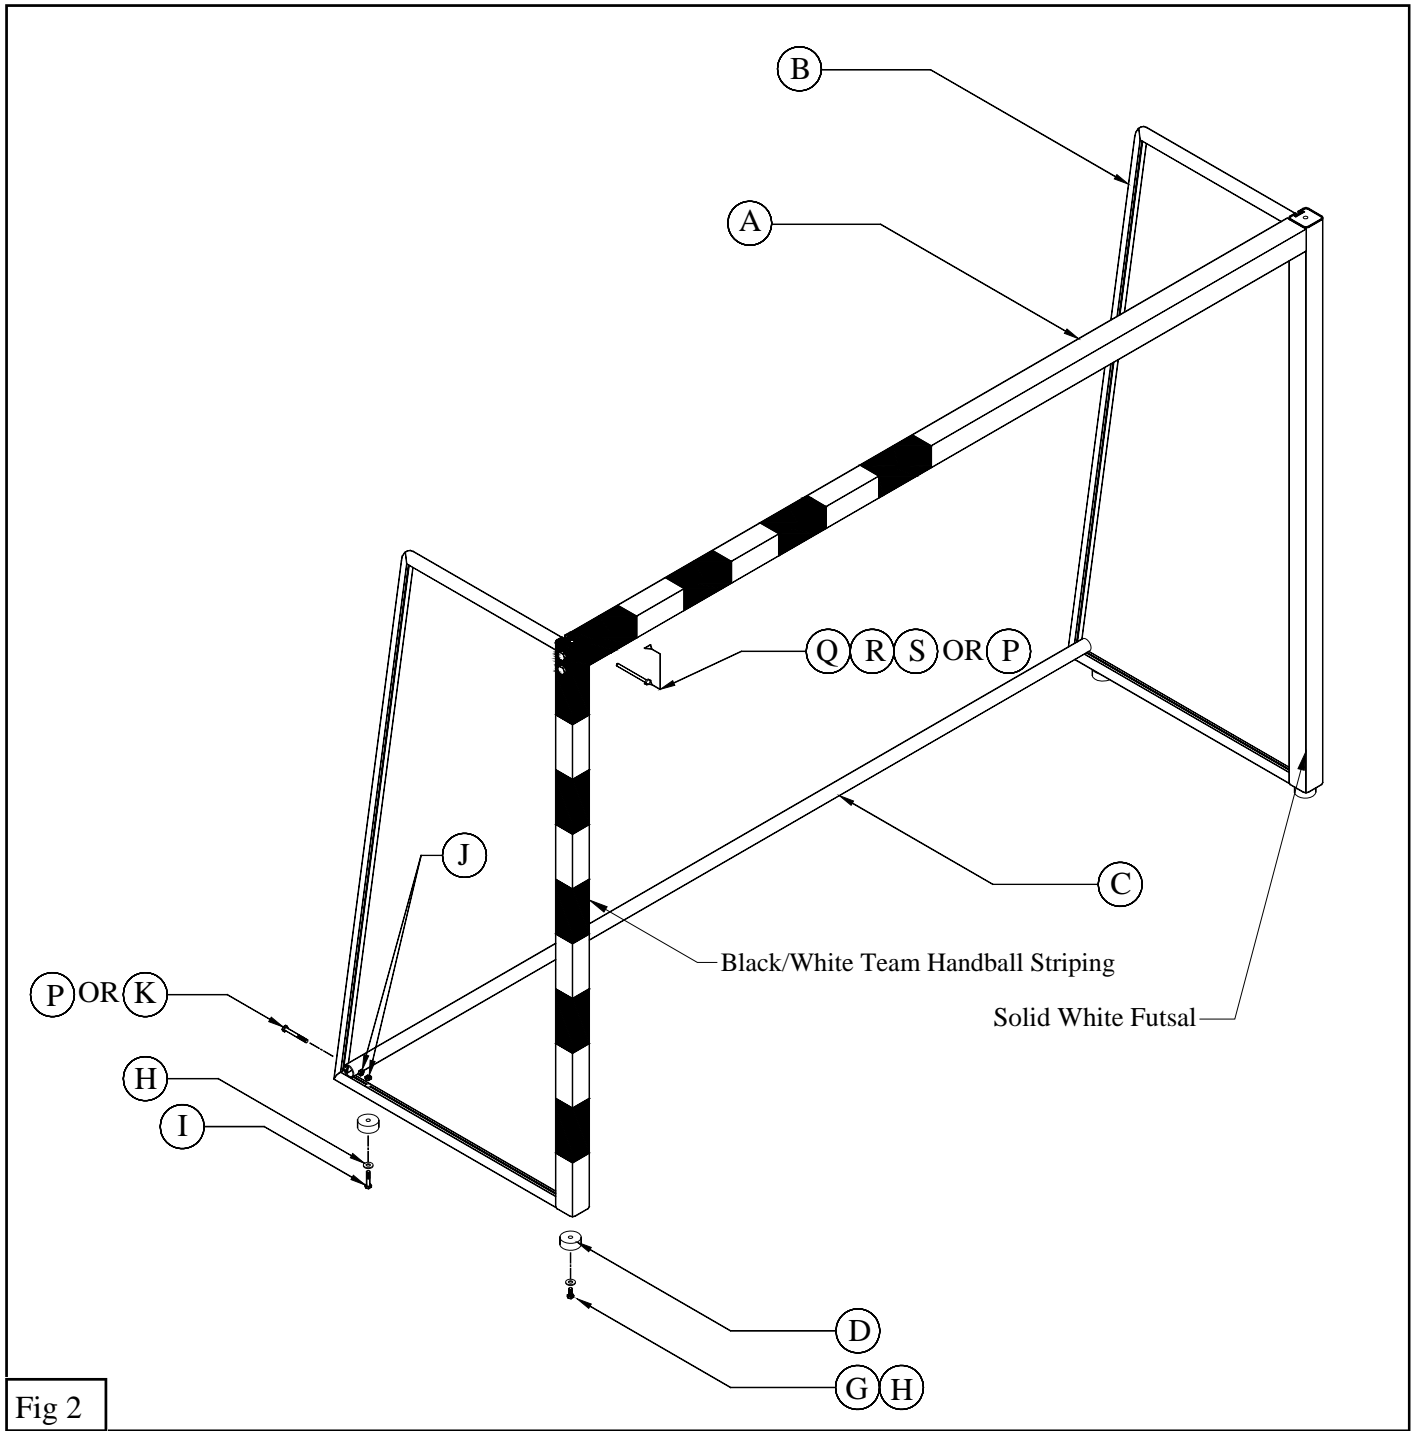

Fig 2
2. Use the  $3/8''$  X  $1''$  Hex Bolts (G) and  $3/8''$  Flat Washers (H) to attach Foot Pads (D) into the threaded plate on the bottom of the front upright pole on Goal Sides (B). Use the  $3/8''$  X  $2''$  Hex Bolts (I),  $3/8''$  Flat Washers (H) and  $3/8''$  Lock Nuts (J) to attach Foot Pads (D) to the bottom rail on Goal Sides (B). See Figure 2.
Option A: See Figure 2.
Option B: See Figure 2.